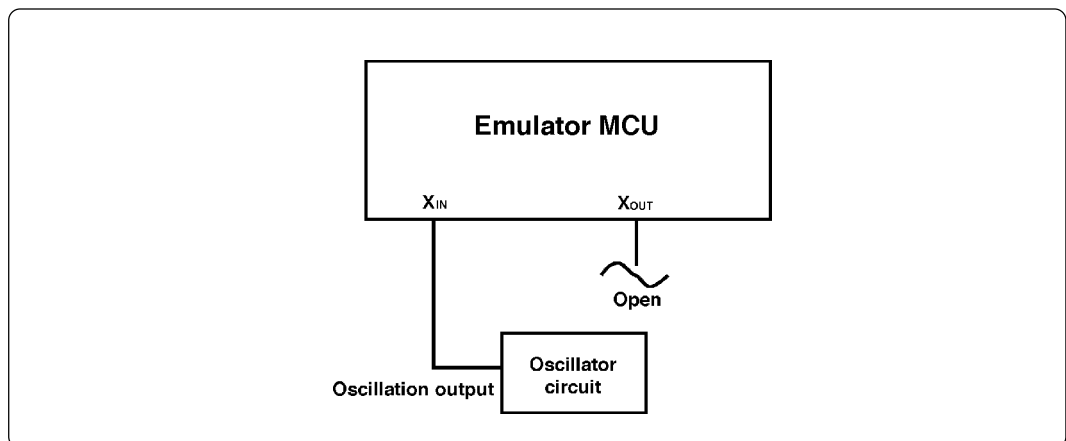

Figure 3.10 External oscillator circuit
- To operate the emulation pod with an external clock, construct the oscillator circuit as shown in Figure 3.10 in the target system and input the oscillator output at 50% duty (within the operating range of the evaluation MCU) into pins XIN and XCIN. And pins XOUT and XCOUT should be open.